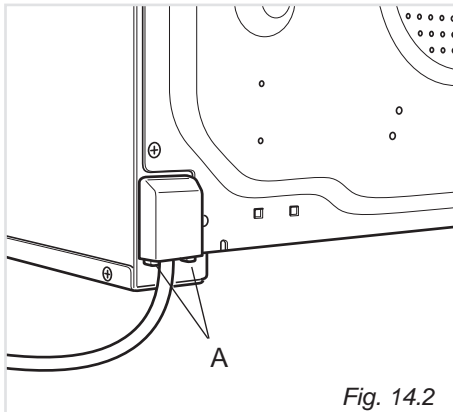

Fig. 14.2
- Unhook the terminal board cover by inserting a screwdriver into the two hooks “A” (fig. 14.2).